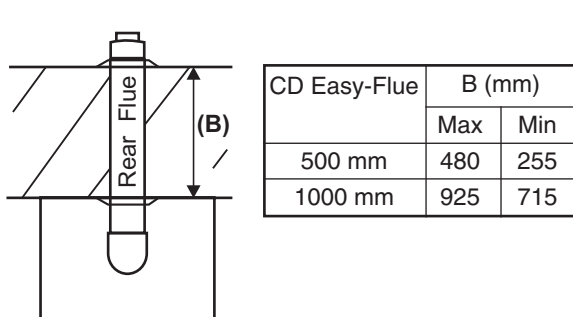

Fig. 14
4.6 FIT THE FLUE - Figs. 14 and 15
1. When the flue length required is more than the maximum stated in Section 4.6, paragraph 1, refer to the table below and Figs 14 and 15.